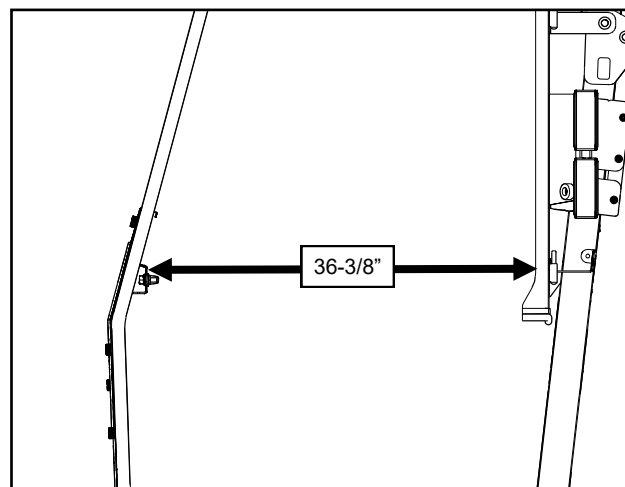

Fig. 12.2 (Align A-Pillar and Rear Legs)
12.2 Measure the distance from the striker bracket to the front edge of the rear legs as shown in figure 12.2. Adjust the A-pillars, rear legs, and ROPS brackets to get as close to 36-3/8" as possible.